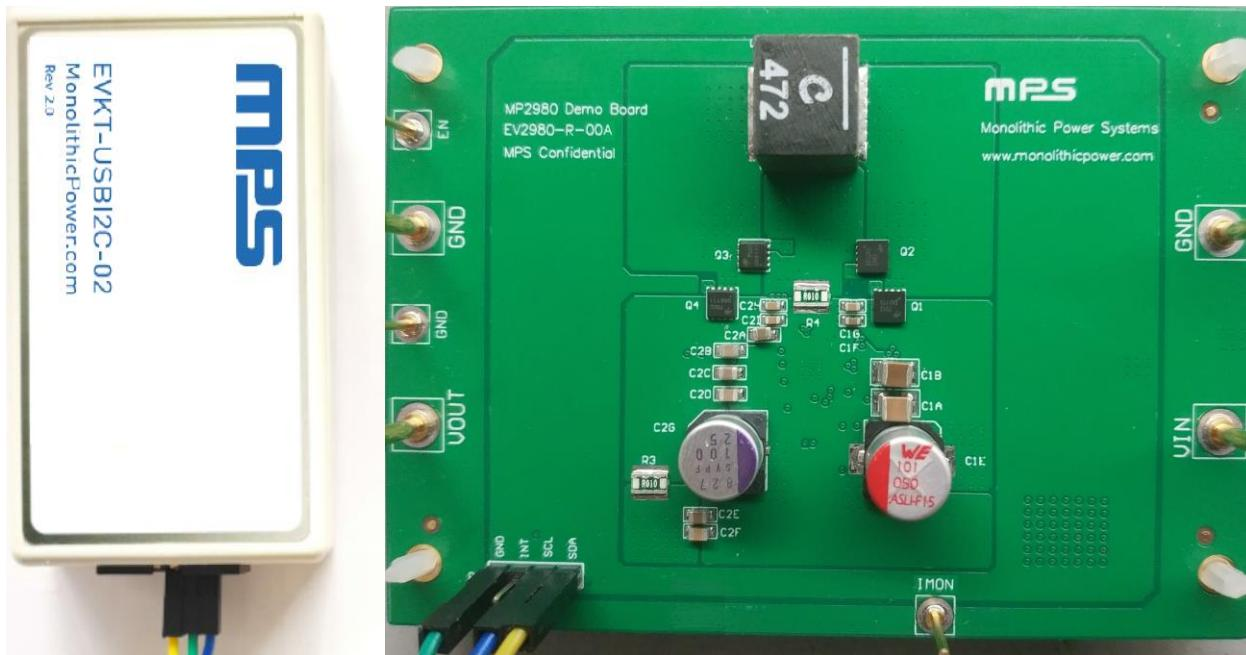

Figure 6: EVB to MPS I²C Communication Interface Device Wire Connection
2. Connect SCL, SDA, and GND (see Figure 6). Refer to the datasheet for further clarification.